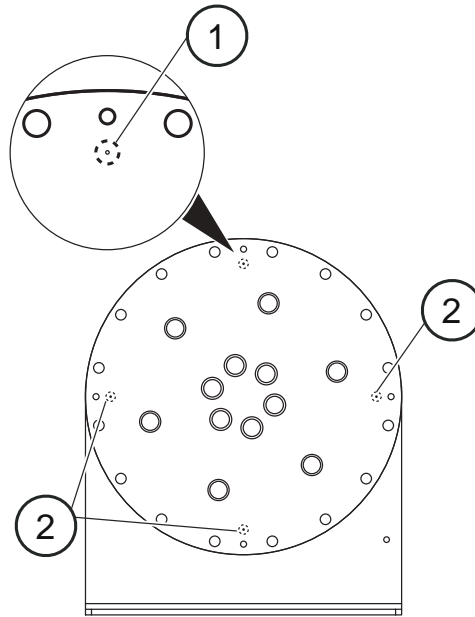

Figure 10 Temperature and Ground Wire Connections
2. There are four (4) mounting points (as shown in Figure 10) for the temperature switch and conduit grounding. The top most mounting point should be used for the temperature switch. Refer to Electrical Wiring Diagrams for termination points.